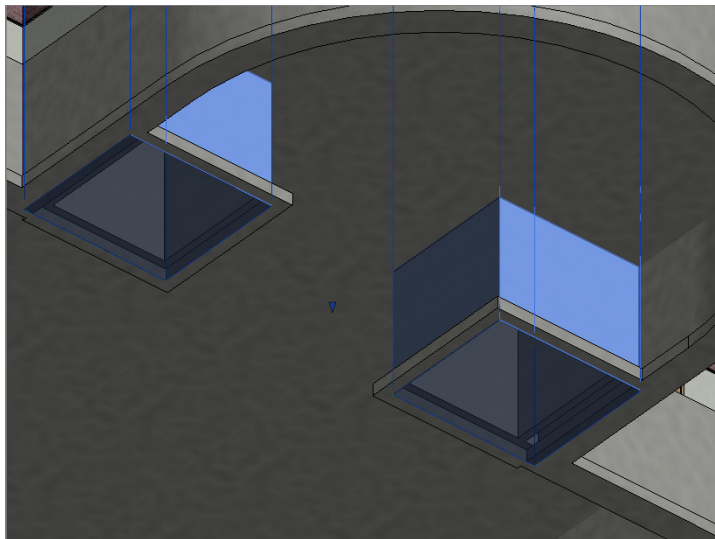

FIGURE 8.65: Selecting the elevator shafts to remove the base offset in the Properties dialog
6. If your slabs look more like a strip footing, as shown in Figure 8.65, hover your cursor over the inside of one of the foundations until the elevator shaft openings are highlighted.